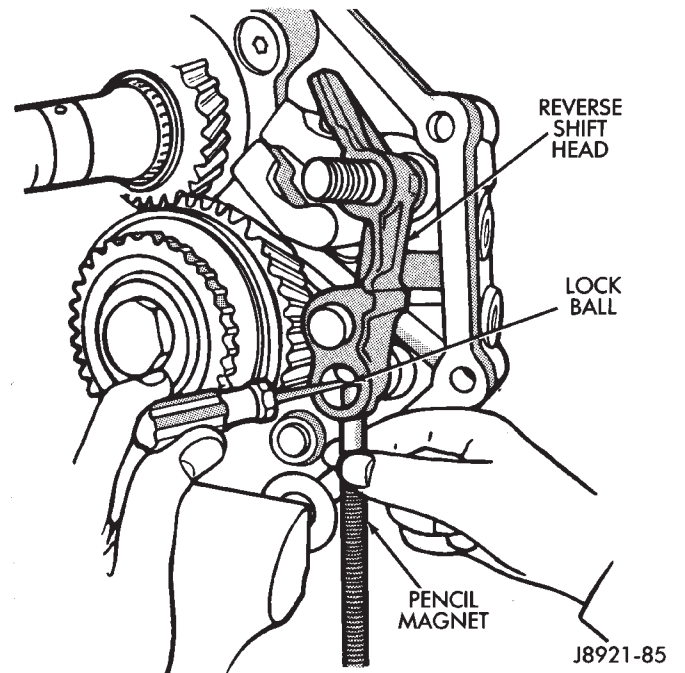

Fig. 85 Installing Reverse Shift Head Lock Ball
(14) Install reverse shift head lock ball with screwdriver and pencil magnet (Fig. 85).